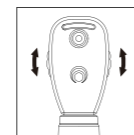

fig.2
2. Scroll the diopter wheel in two directions as **fig.2** to select a suitable diopter, which helps to get a clearer observation vision for user ;